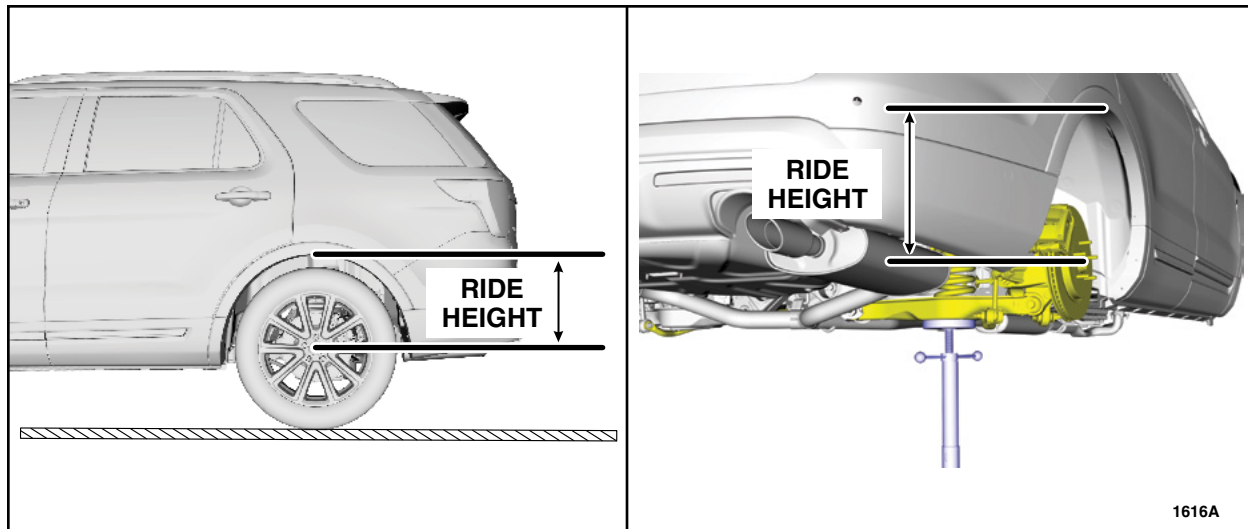

FIGURE 1
2. Measure the distance from the center of the wheel hub to the lip of the fender with the vehicle in a level, static ground position (ride height) before disassembly. See Figure 1.
NOTE: The toe links must be secured at ride height during replacement. See Figure 1.